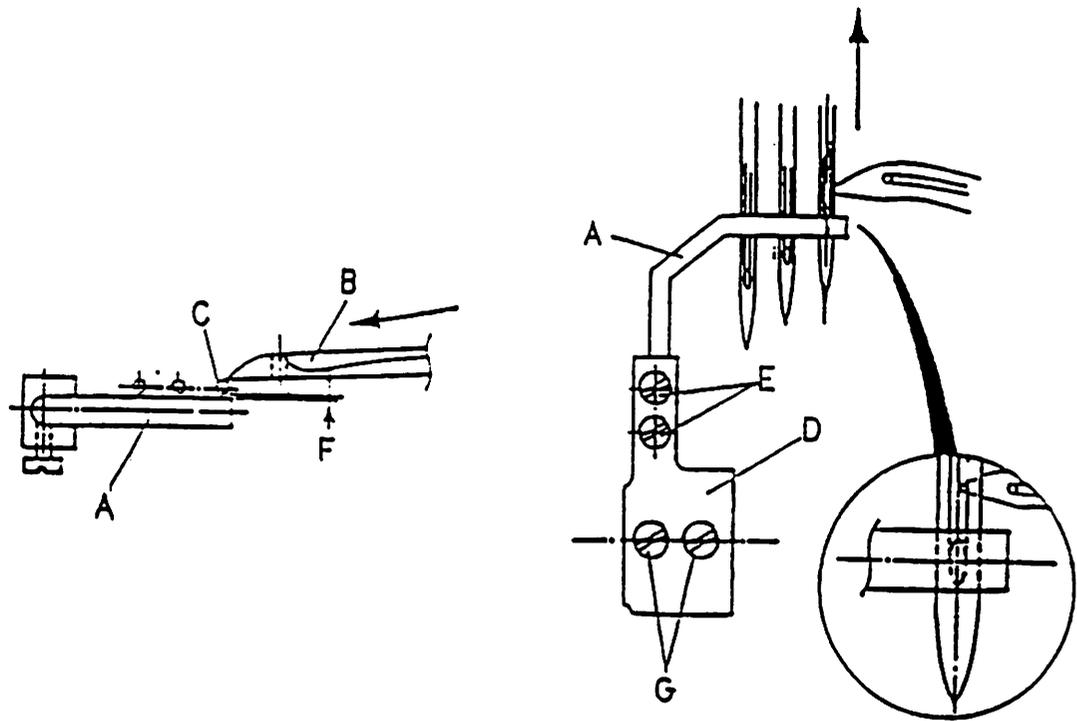

Fig. 12
(14) Adjustment of Needle Guide (Fig 12)